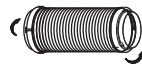

Fig.17
1. Install the window exhaust adaptor B onto the exhaust hose as shown in **Fig.17.** or **Fig.18.** Refer to the previous pages for window kit installation.